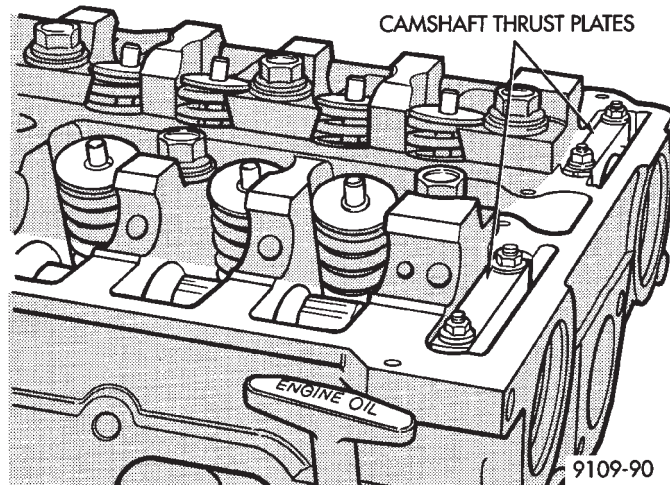

Fig. 2 Camshaft Thrust Plates
(3) Remove thrust plates from rear of camshafts (Fig. 2).The intake camshaft uses a wider thrust plate than exhaust camshaft.